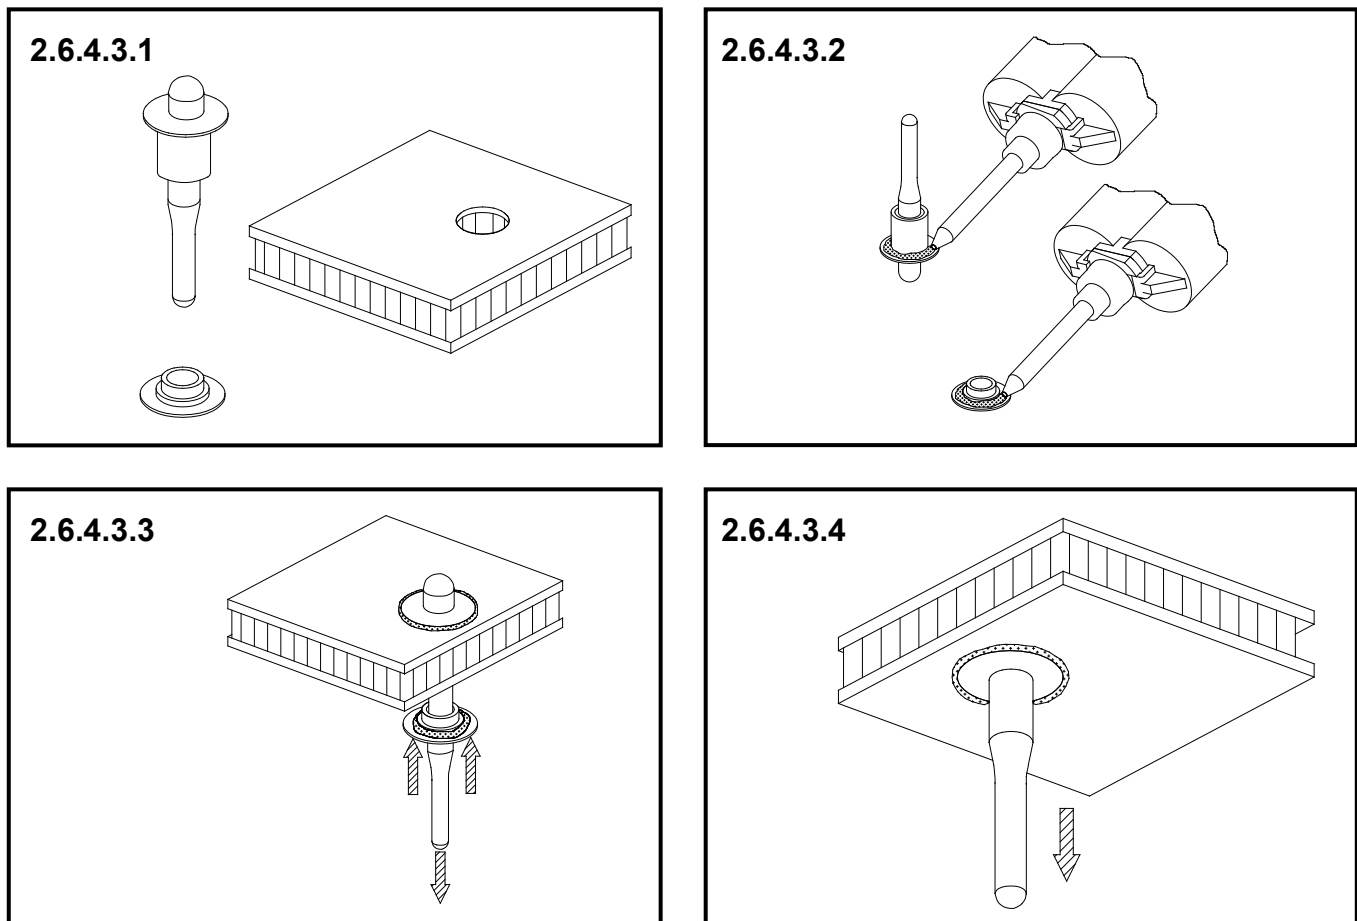

FIGURE 11. PROCEDURE FOR ATTACHMENT OF CLICK BOND SPACER INSERT PANEL BUSHING
2.6.4.4 Bushings – Nutplate Spacer Insert Panel Bushing type. Figure 11 indicates the sequential steps required to install this type fastener.